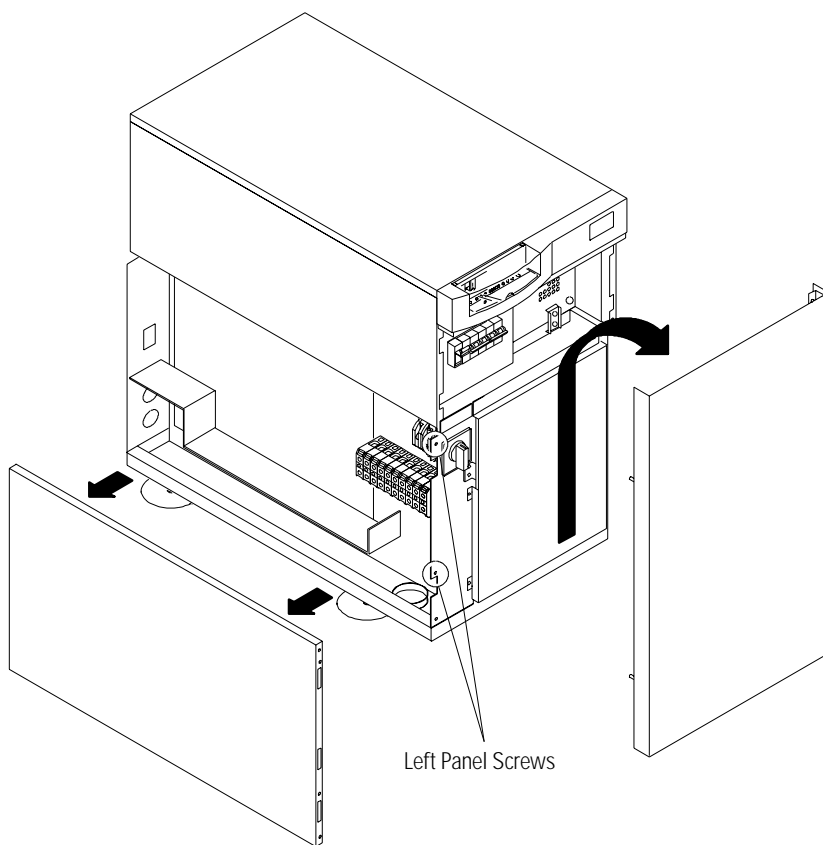

Figure 5. Removing the UPS Panels
4. Remove the front panel. Lift from the bottom of the panel and then pull out (see Figure 5).
5. Remove the left side panel of the UPS by unscrewing the two screws and pulling the panel (see Figure 5).
1. Remove the front panel. Lift from the bottom of the panel and then pull out (see Figure 5 on page 22).